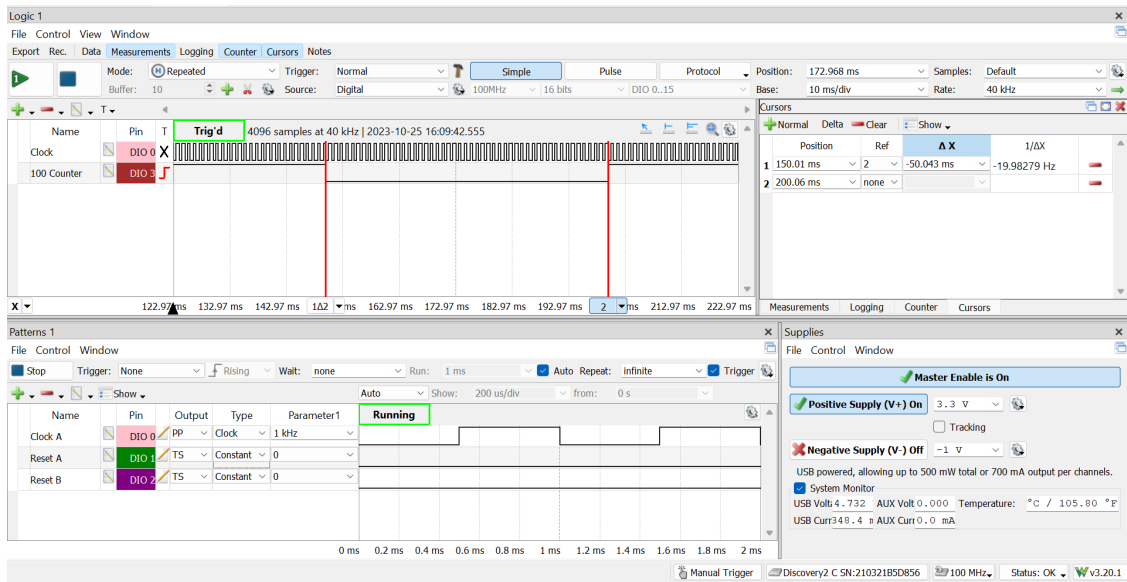

Figure 31: Buggy divide-by-100 counter (more of a divide-by-50 counter) output
- I powered it with the 3.3 V supply from the AD2 breakout board. I configured this on WaveForms, as seen in Figure 31's bottom right.
I planned to confirm the operation of counter by ensuring for every 100 pulses of the input clock, the counter would increment once. This is how I noticed the output in Figure 31 was incorrect; the counter had a frequency of 20 Hz, which meant it was incrementing every 50, not 100 pulses. I figured out this problem by implementing a reset for the divide-by-10 counter on Side A of the chip. At this point, I realize that maybe I wired my divide by 10 and divide by 100 counters incorrectly by connecting the three bits of the divide by 5 counter, but I don't have the necessary materials to fix that anymore.